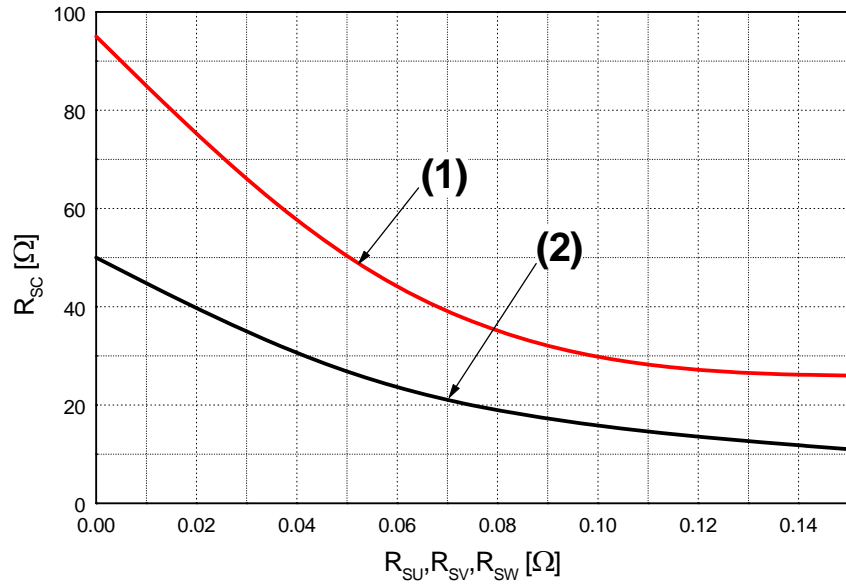

Figure 6. R_{sc} Variation by Change of Shunt Resistors (R_{su} , R_{sv} , R_{sw}) for Short-Circuit Protection
- Short-circuit protection is functioning only at the low-sides. It would be recommended that the value of the external sensing resistor (R_{SC}) should be selected around 50 Ω in order to make the SC trip-level of about 15A. at the shunt resistors (R_{SU}, R_{SV}, R_{SW}) of 0 Ω. For the detailed information about the relationship between the external sensing resistor (R_{SC}) and the shunt resistors (R_{SU}, R_{SV}, R_{SW}), please see Figure 6.